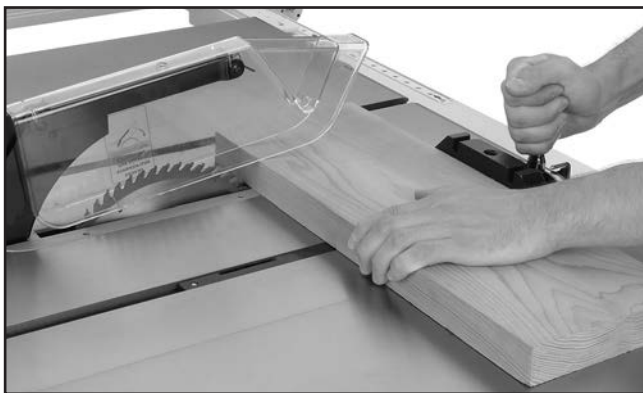

Figure 55. Typical crosscutting operation.
7. Hold the workpiece firmly against the face of the miter gauge (**Figure 55**), and ease it through the blade until the workpiece is completely past the saw blade.